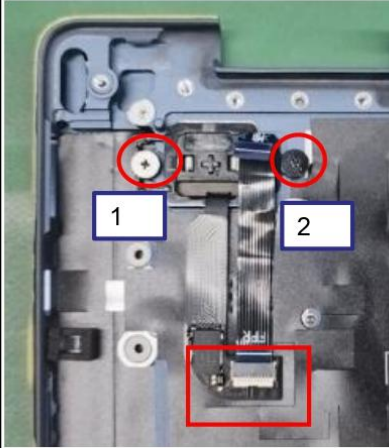

Figure 2
1. Remove the screw (6052B0714501)*2 and remove the finger (Figure 2).